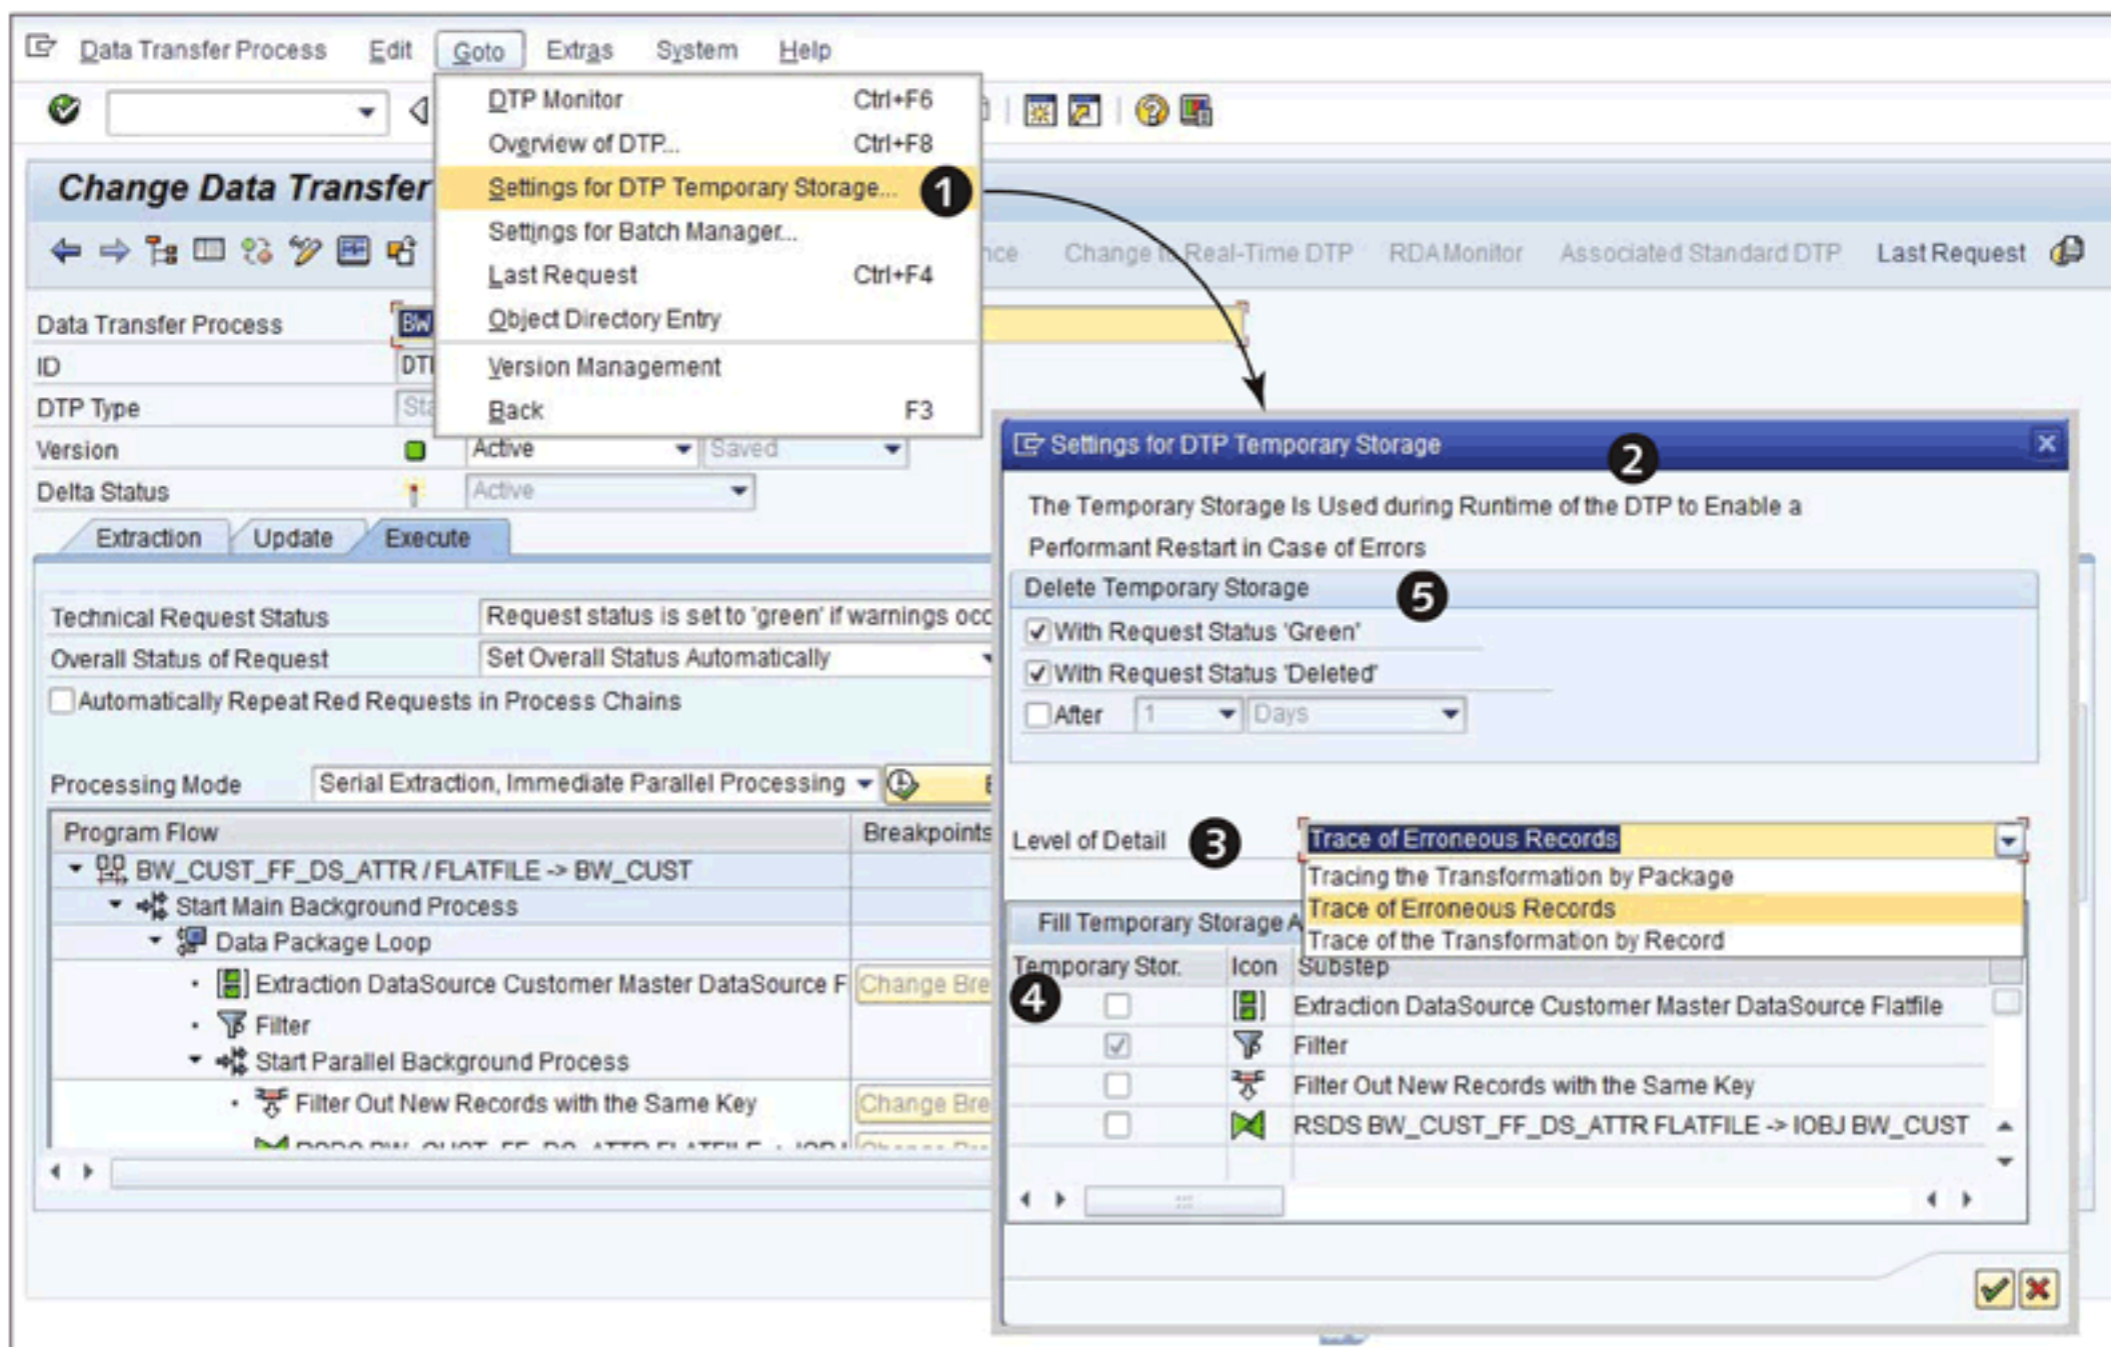

Figure 7.78 Configuring Temporary Storage
You can configure temporary storage from the DTP configuration screen, as shown in Figure 7.78. Use the menu path GOTO • SETTINGS FOR DTP TEMPORARY STORAGE (1). This action results in the SETTINGS FOR DTP TEMPORARY STORAGE screen (2), which allows you to trace records to various levels of detail (3). You can define the step in the sequence of processing substeps to fill the temporary storage (4). Standard processing substeps are available here, and you can select multiple steps, if required. As shown in 5, you can instruct the system when to delete data stored in the temporary storage area.